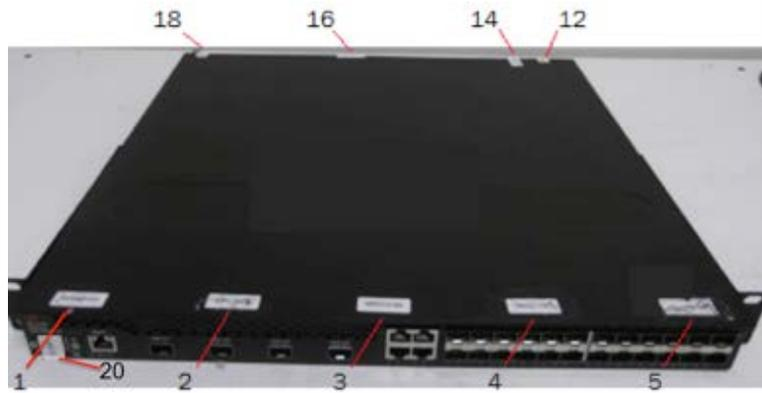

Figure 52 - Top front view of Brocade CES 2024F-4X device with security seals
- Top front: Affix one (1) seal over each flat head that connects the top cover to the base of the chassis. Five (5) seals are needed to complete this step of the procedure (Seals 1 through 5). One (1) seal is placed vertically over the console port (Seal 20). See Figure 52 for the correct seal orientation and positioning.